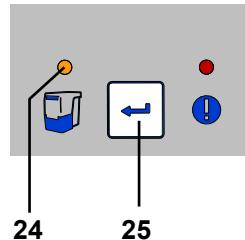

Fig. 11
- ⇒ Press the enter key (25) (the counter which determines the time period is re-set).
- ◆ The display dust drawer (24) light disappears.
**If the dust drawer is not emptied, the display for the dust drawer will remain alight (24, Fig. 11). When the unit is switched off/on an acoustic signal will occur to remind that the dust drawer needs emptying.**